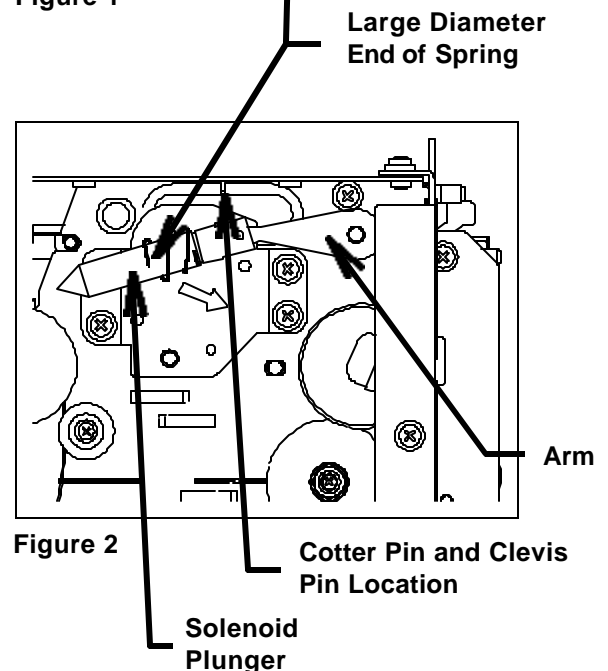

Figure 2
7. With pliers, remove the Cotter Pin from the Clevis Pin. Slide out the Clevis Pin from the Arm and Solenoid Plunger assembly and discard the Plunger (Figure 2). Assemble the Clevis Pin through the Arm and the New Solenoid Plunger and secure it with the new Cotter Pin provided (using the same Cotter Pin hole). **IMPORTANT: Bend and loop each exposed Cotter Pin end against the Clevis Pin body to prevent any damaged to the Bumper.**
8. **IMPORTANT: Assemble the spring onto the Plunger so that the Large Diameter End of the Spring will touch the Solenoid Body.** Install the New Plunger into the New Solenoid Body and secure the solenoid with (2) #10 screws.